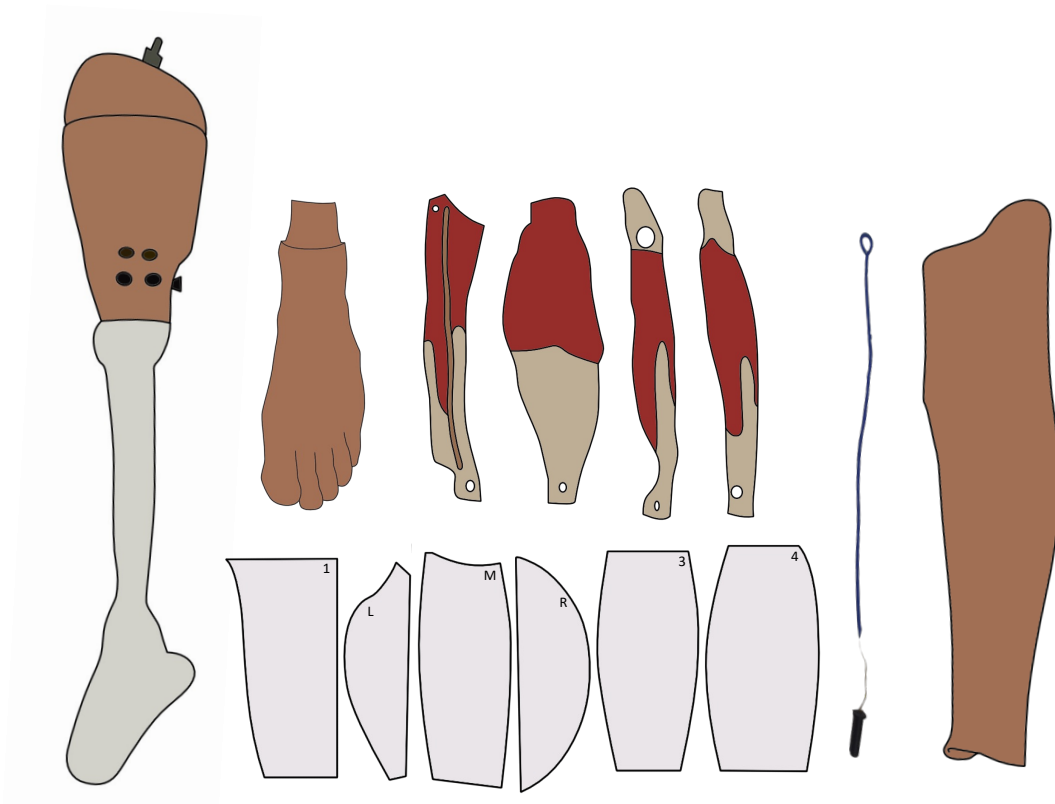

Figure 7. Components of the Fasciotomy System for Laerdal
1. Identify all components for the System (**Figure 7**).